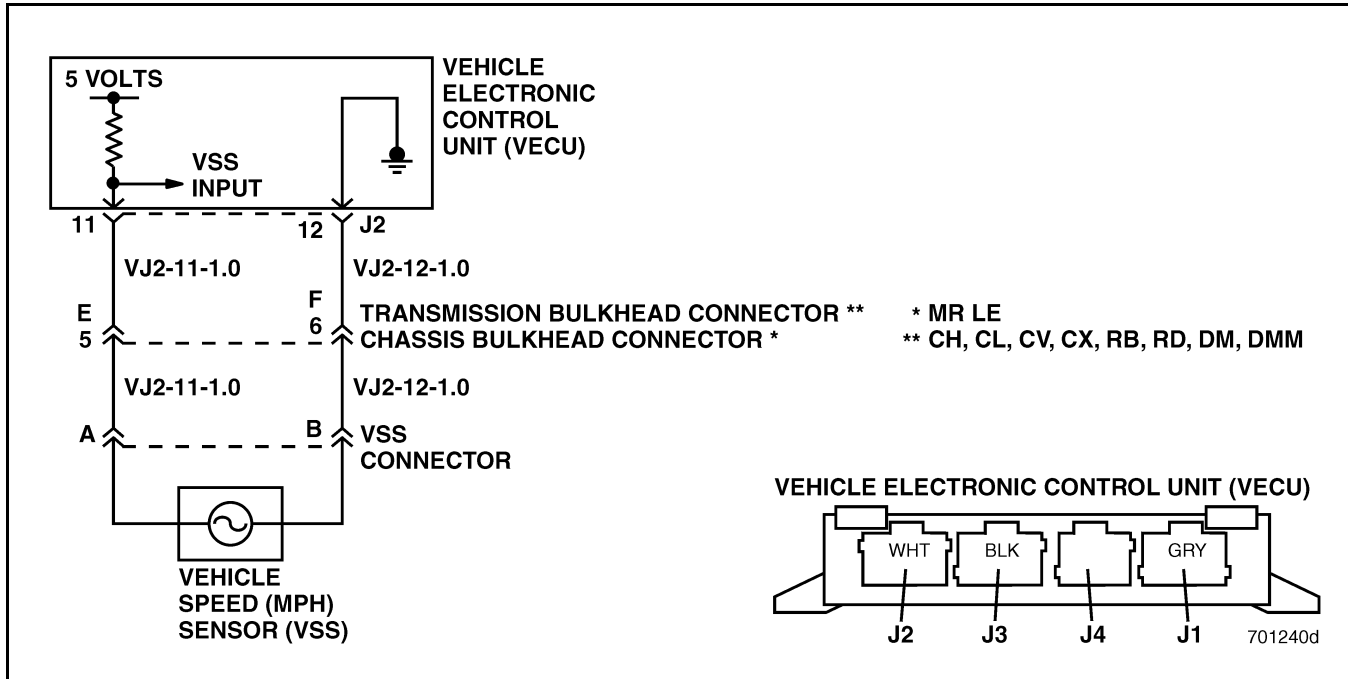

Figure 437 — Vehicle Speed (MPH) Sensor (VSS) Circuit
4. Disconnect the bulkhead connector (see Figure 437).